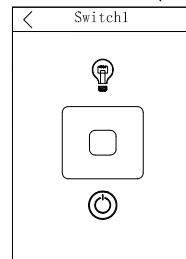

Fig.2
- 1.) Control switches: Select switch ID to enter the switch control interface. Tap the on/off icon to have turn-on or turn-off operation (as shown in Fig.2.).